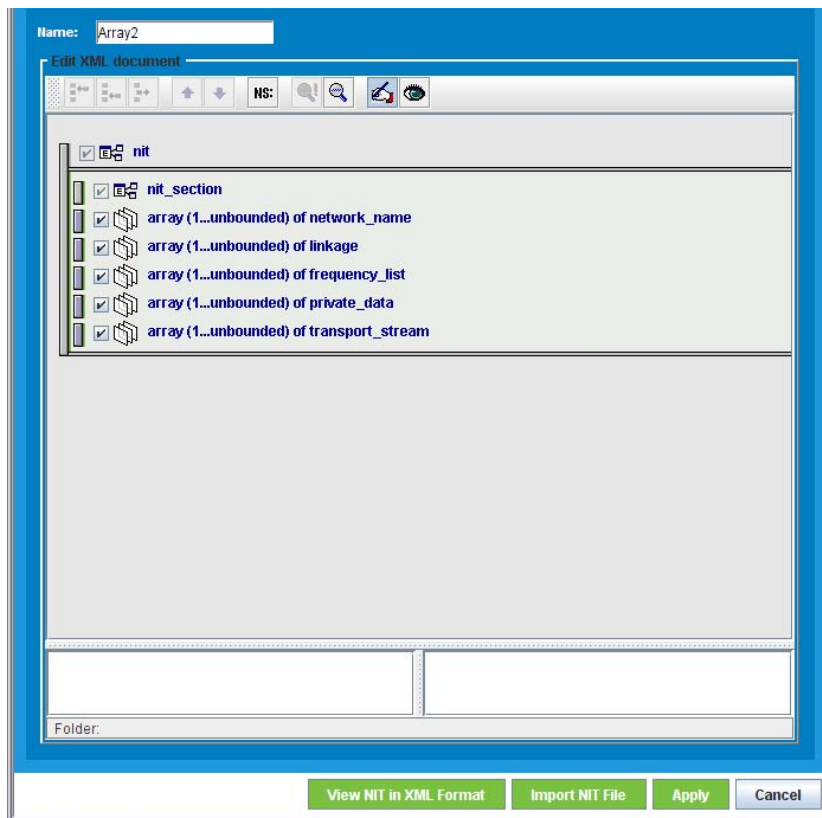

Figure 304. Assigning a Name to a Configuration File
2. Navigate to where the arrays are stored and click **Open**. The window of Figure 304 appears.